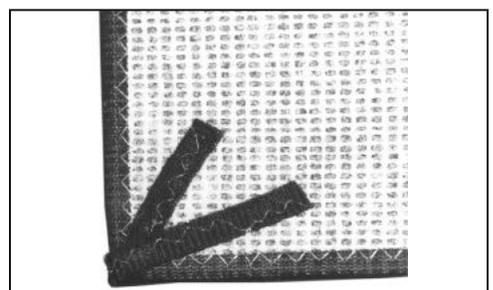

FIG. 21
5. When completed, fold and glue all the strips down (Figure 21).